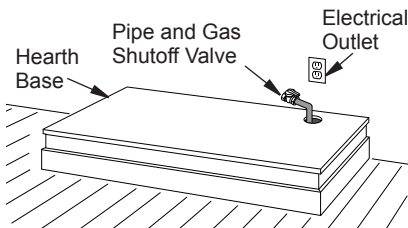

Figure 12 - Placing Hearth Base Against Wall
2. If blower is installed, install a properly grounded, 120 volt three-prong electrical outlet at fireplace location if an outlet is not there. If possible, locate outlet so cabinet mantel will cover it when installed (see Figure 12).
3. Place hearth base against wall at installation location. Cut an access hole in hearth base to run gas line to fireplace (see Figure 12). Make sure to locate access hole so cabinet mantel will cover it when installed.